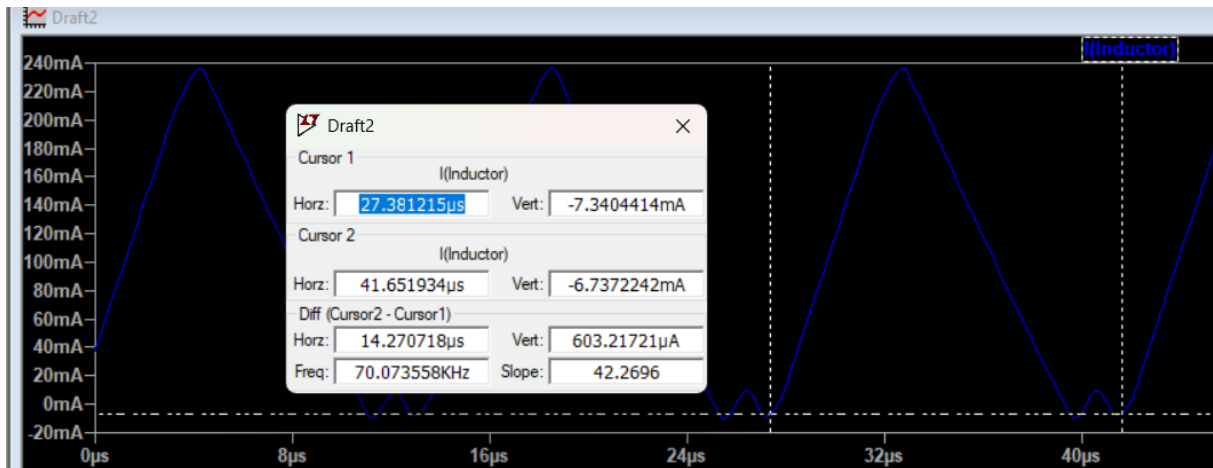
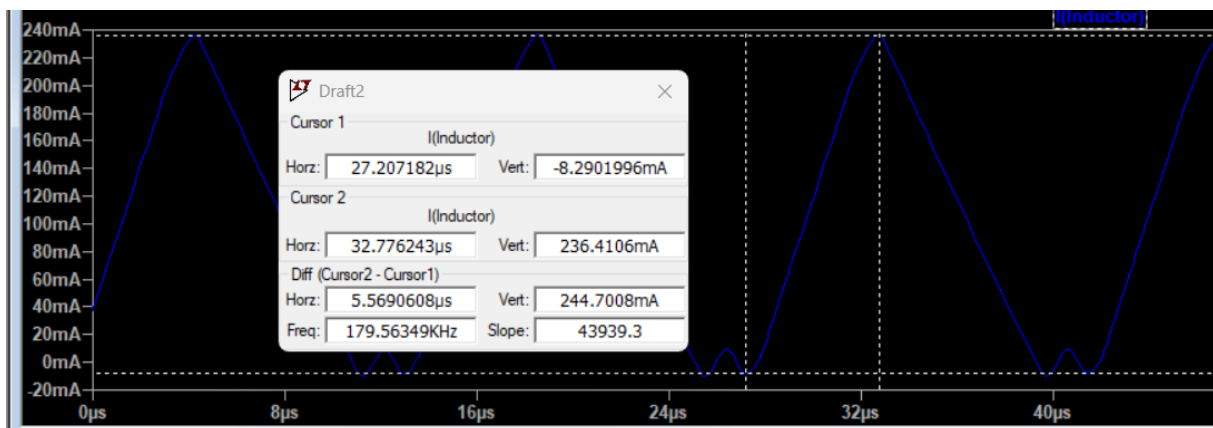

Fig. 14: T_s value with $R_L=47\Omega$
Fig. 13: t_{ON} value with $R_L=47\Omega$
k) In part f), duty cycle is calculated as 0.388. Therefore a value near to this is going to be obtained in the simulation and the output voltage will be checked. Fig. 13 shows the T_S value of the circuit and Fig. 14 shows the t_{ON} value with $R_L=47\Omega$. To get a value close to $D=0.388$, R_A value is set to $9K\Omega$ and R_B value is set to $1K\Omega$.